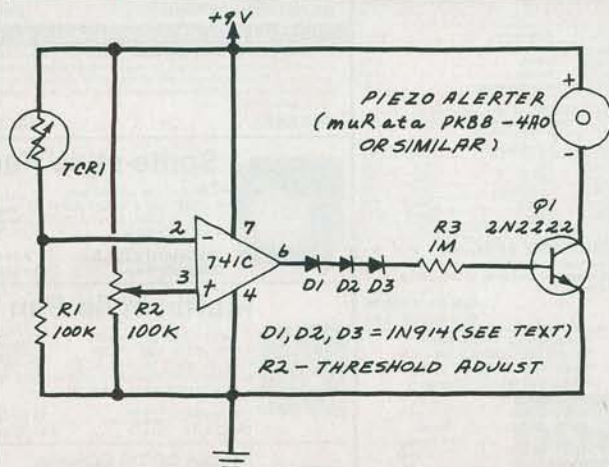
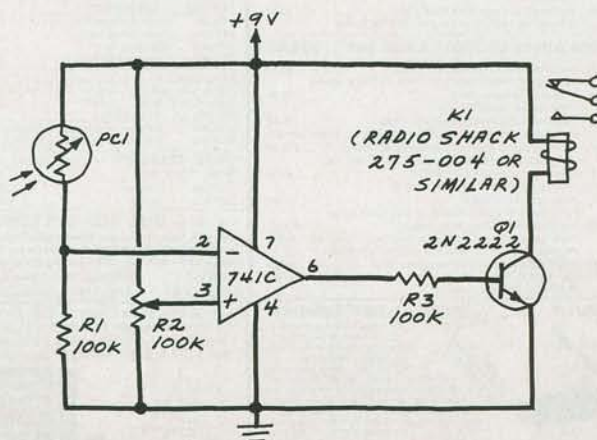

Fig. 1. Adjustable threshold temperature alarm.
Fig. 2. Adjustable threshold light-dark detection switch.
**I**F you enjoy gardening as much as I do, you could probably use a circuit that sounds an alarm when the temperature approaches freezing. Figure 1 shows a very simple circuit that signals a distinctive alarm tone when the temperature approaches 0° Centigrade. Since the temperature detection threshold is adjustable, the circuit can sound an alarm at any point over a wide temperature range.
The circuit in Fig. 1 can drive more powerful alarm devices such as sirens by substituting a relay for the piezo alerter. The following circuit shows how this is accomplished.
**An Adjustable Light Detection Switch.** Replacing the thermistor in Fig. 1 with a cadmium-sulfide photoresistor allows the circuit to function as an adjustable threshold light/dark detection switch. Figure 2 shows one possible circuit configuration.
The low-state output voltage from the 741 does not have sufficient amplitude to pull in the relay. Therefore, this circuit does not require the diodes used in Fig. 1.
**Going Further.** The sensors used in both these circuits are interchangeable. You can use a cadmium-sulfide photoresistor in place of the thermistor in Fig. 1. And you can use a thermistor in place of the photoresistor in Fig. 2. Furthermore, both circuits are adjustable over a very wide temperature or light-intensity range. Therefore, you should have little difficulty adapting one or both of these useful and versatile circuits to your specific application.
Finally, be aware that the reliability and accuracy of these circuits is determined by both your calibration procedure and the physical location of the finished circuit. For example, when the circuit in Fig. 1 is configured as a freeze detector, it may fail to operate consistently if the battery is exposed to temperature extremes. It may also sound false alarms or fail to operate if water bridges any of the leads from  $R1$ ,  $R2$  or the thermistor. Be sure to keep these caveats in mind when you plan your application.  $\diamond$